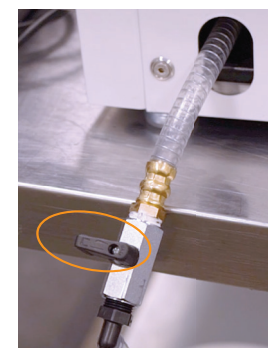

FIGURE 2
10. Make sure to close the drain valve on the freeze dryer, located on the side, toward the bottom-back of your freeze dryer. The handle should be perpendicular the the hose when in the closed position. (See Figure 2, Page 7). If the drain valve
Before you start a freeze drying cycle make sure the valve on the drain tube is closed. The small handle on the valve should be perpendicular to the tube (See Figure 2).
16. Close the drain valve. In the closed position, the drain valve is perpendicular to the hose (See Figure 2, Page 7). Press “Start”.